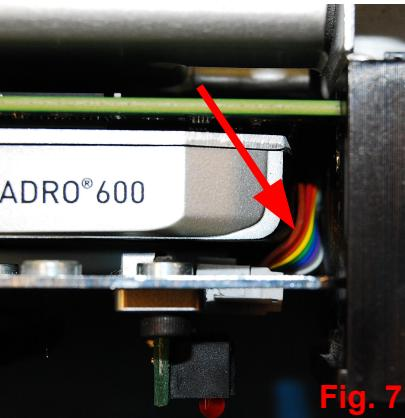

Fig. 7
a) Very important to make sure that the ribbon cable from the front leds do not interfere with the gpu fan (Fig. 7,8)